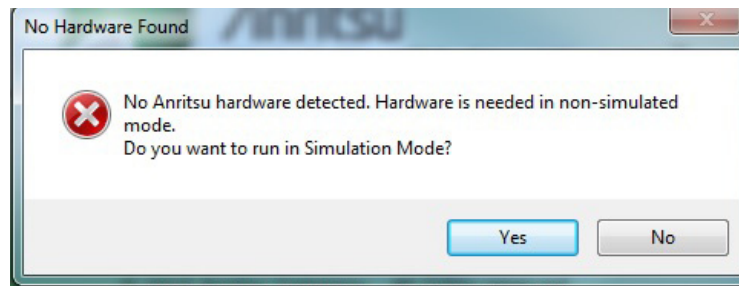

Figure 3-4. No Hardware Prompt
1. Launching the ShockLine software without plugging in the USB cable from the VNA to the controller first will result in the software asking the user if they want to run in simulation mode. See Figure 3-4. If you want to run in Simulation mode, go to Section 3-8 “Simulation Mode” on page 3-6.